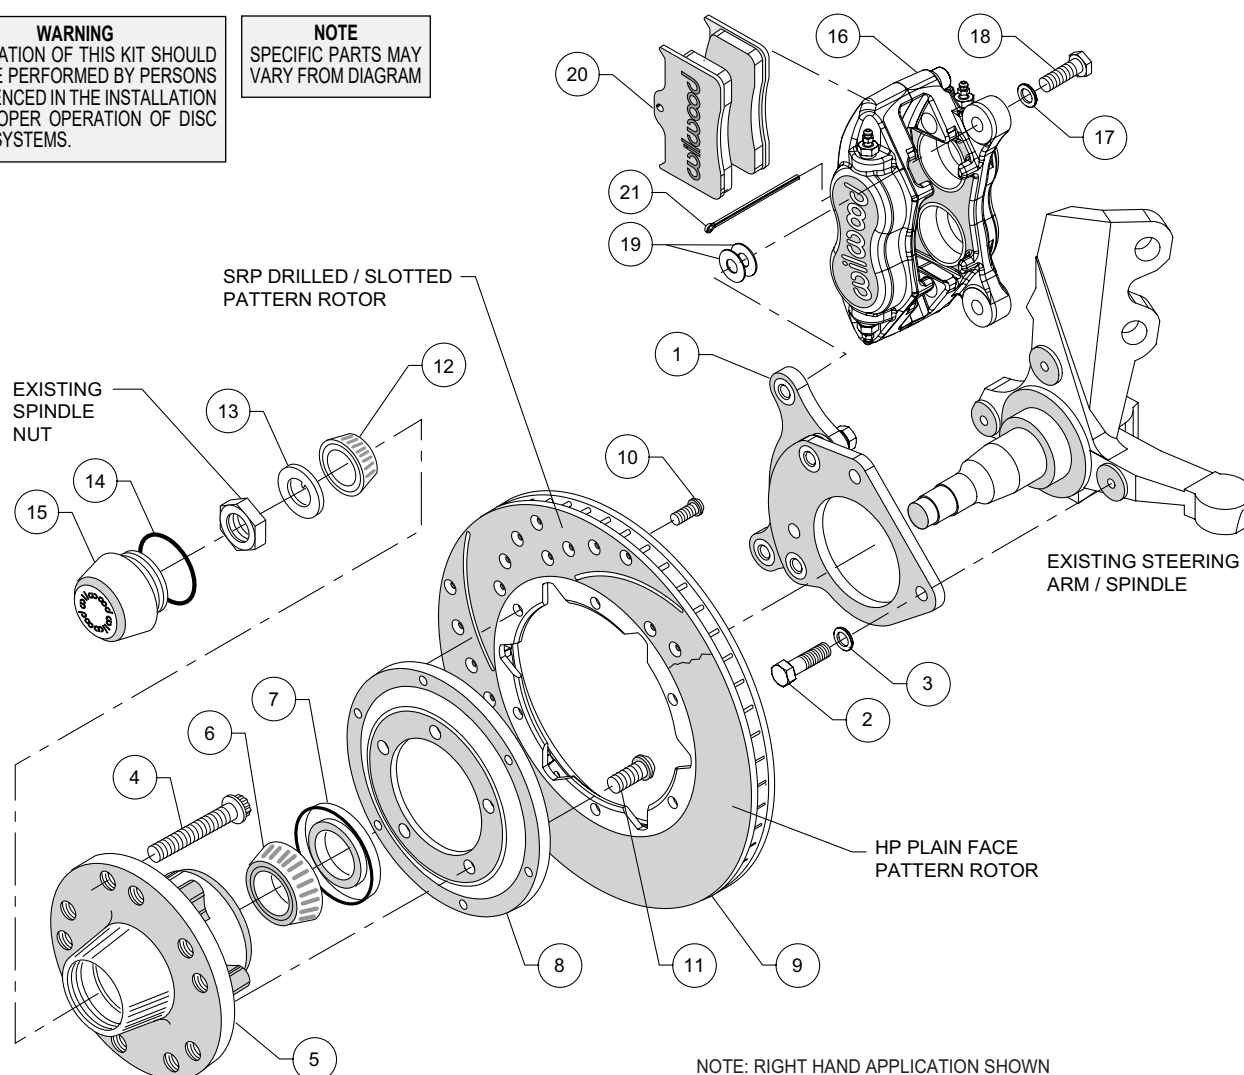

Figure 1. Typical Installation Configuration
**NOTE:** Numbers in parenthesis refer to the parts list and Figure 1 on the preceding pages.
- Align caliper mounting bracket (1) with the corresponding holes, to the face of the spindle and attach using bolts (2) and washers (3), as shown in Figure 1 and Photo 2. Temporarily tighten the mounting bolts. Ensure that the flanged heads of the clinch nuts in the bracket are facing outboard, Photo 2. **NOTE:** The bracket must fit squarely against the mounting points on the spindle. Inspect for interference from casting irregularities, machining ridges, burrs, etc. Remove bolts one at a time, apply red *Loctite*® 271 to the threads, and torque to 40 ft-lb.
- Install wheel studs (4) into the hub (5), Photo 3. Torque to 77 ft-lb. **NOTE:** There are two five lug patterns in the hub (5 x 4.50 and 5 x 4.75). Ensure the correct hub stud pattern is being used to fit the wheel application.
- Pack the large inner bearing cone (6) with high temperature disc brake bearing grease (available from your local auto parts store) and install into the backside of the hub (5), Photo 4.
- Install the grease seal (7) by pressing into the backside of the hub (5), flush with the end of the hub, Photo 4.
- Orient the rotor (9) and the rotor adapter (8) as shown in Figure 1 and Photo 5. Attach the rotor to the adapter using bolts (10). Apply red *Loctite*® 271 to the bolt threads and torque to 25 ft-lb using a criss-cross pattern.
- Mount the adapter/rotor assembly (8/9) to the hub (5) using bolts (11), as shown in Figure 1 and Photo 6. Apply red *Loctite*® 271 to the bolt threads and torque to 45 ft-lb using a criss-cross pattern.
- Pack the small outer bearing cone (12) with high temperature disc brake bearing grease and install into hub (5). Slide the hub/rotor assembly onto the spindle. Secure using spindle washer (13) and OEM spindle nut, Photo 7. Adjust bearings per OEM specifications. Install saved OEM nut lock (if any) and a new cotter pin (not included).
- Screw dust cap (15) into hub (5), Photo 8. Friction created by the o-ring (14) on the dust cap keeps it from unscrewing. **NOTE:** The O.D. of the existing OEM spindle washer may be larger than the I.D. of the dust cap not allowing it to seat against the hub face. Therefore, use the spindle washer (13) supplied with the kit instead of the OEM washer.
- NOTE:** Please reference the caution statement at the beginning of the assembly instructions. Mount the caliper (16) onto the caliper mounting bracket (1) using bolts (18) and washers (17), as shown in Figure 1. Initially place two .035" thick shims (19) on each bolt between the caliper and the bracket, Photo 9. Temporarily tighten the mounting bolts and view the rotor (9) through the top opening